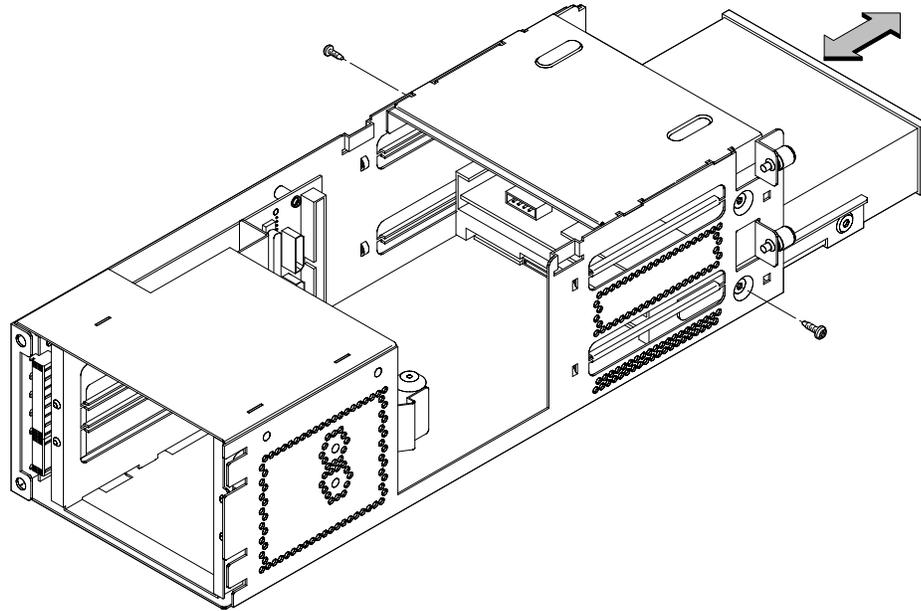

Figure A-5. Removing Drive Screws
8. Unscrew the two screws holding the drive in the storage drawer, and slide the drive out of the drawer. See Figure A-5.